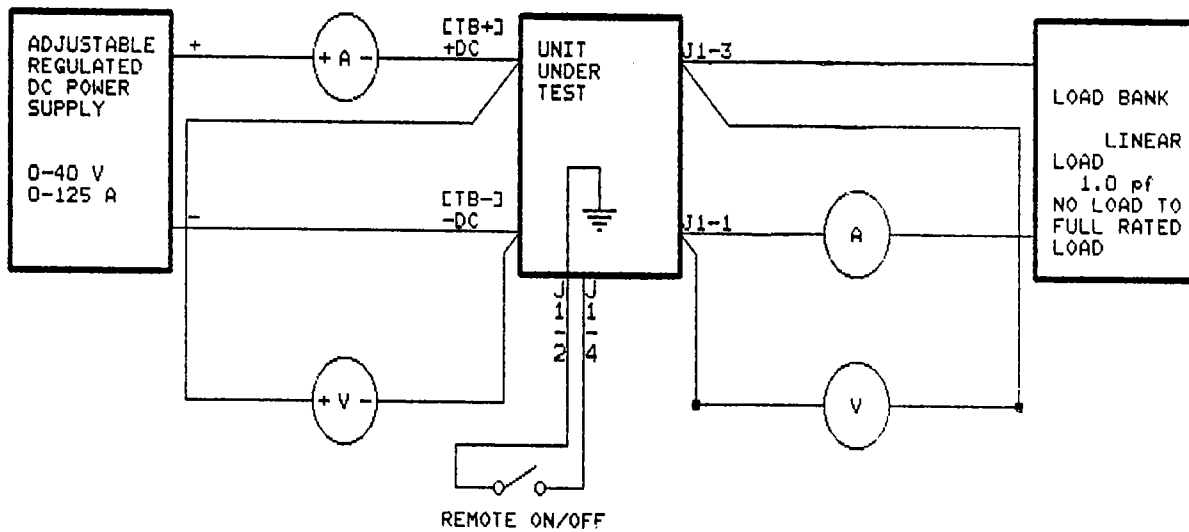

FIGURE 102
Figure 102 specifies the connections for the test setup.
A. Test Setup (See Figure 102)
- (1) Connect dc power supply, dc ammeter (with shunt, if required), and dc voltmeter to input of unit-under-test (UUT) -- TB1 on front panel. (Large diameter stud is positive; small diameter stud is negative.)
A. Test Setup (See Figure 102) (Continued)
- (2) Connect ac ammeter, ac voltmeter, and 1000 W nominal linear load to pins 1 and 3 of J1 on the front panel of the UUT.